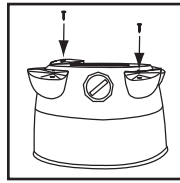

FIGURE 6
5. Secure with screws provided. **FIGURE 6.**